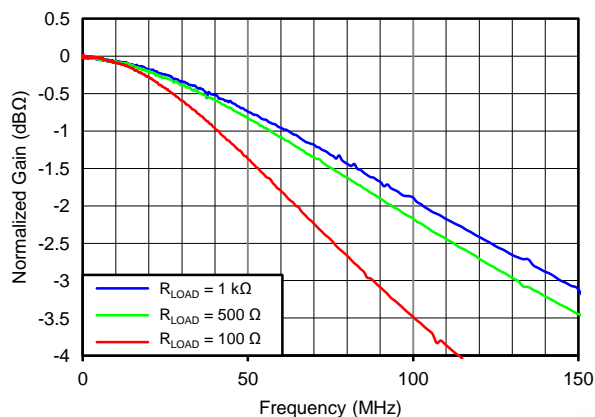
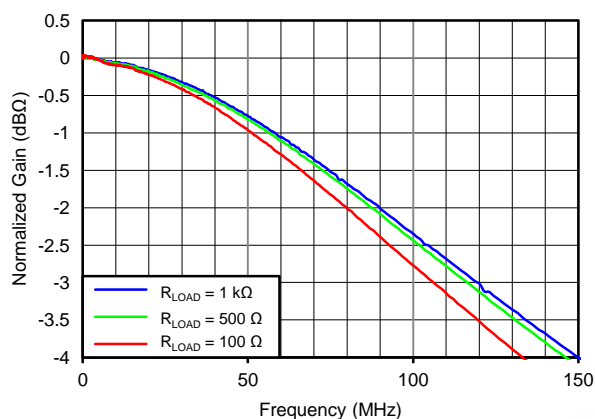
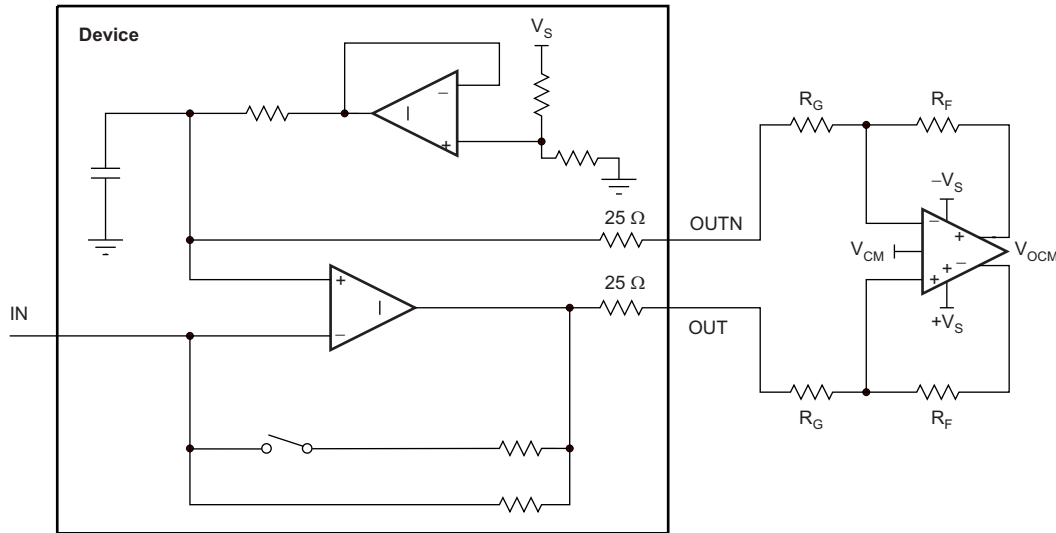

Figure 1. 18.2-kΩ GAIN FREQUENCY RESPONSE
Figure 3. 4.5-kΩ GAIN FREQUENCY RESPONSE
Figure 38. TIA with Associated Signal Chain
TI recommends maintaining a 200-Ω differential minimum load to ensure that the device bandwidth is not reduced because the open-loop gain of the OPA857 varies with loading; refer to Figure 1 and Figure 3 in the Typical Characteristics section. At a 100-Ω differential load, the OPA857 has an 87-MHz bandwidth instead of 130 MHz. In the high-gain configuration, heavier loading also has higher attenuation which further reduces the amplifier gain for a 500-Ω load resistance. Suitable fully-differential amplifiers for the signal chain have a sufficient 0.1-dB to 100-MHz bandwidth to ensure that the overall system performance is not reduced. Figure 38 shows a diagram of an associated signal chain.
- Although single-ended to differential conversions for connecting the device to the fully-differential amplifier is acceptable, best noise performance is achieved with the fully-differential connection described in Figure 38.
As a worst-case example, compute the maximum T_J using an OPA857 in the circuit of Figure 38 operating at the maximum specified ambient temperature of +95°C. Equation 6 and Equation 7 calculate P_D and maximum T_J , respectively.